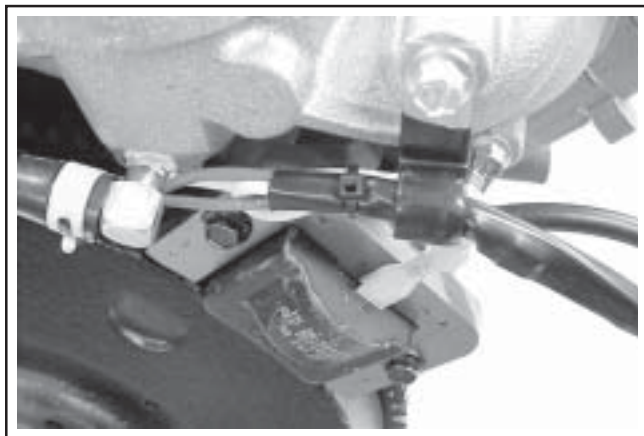

**Figure 11-73. By-pass Hose and Wiring Routed within Cutout of Intake Manifold (Some Models).**
8. Connect the kill leads to the ignition modules. Route the wiring harness and kill leads as shown in Figures 11-73 and 11-74. Push (bend) the loop portion of the clamp on the #1 side back, as far as possible, for maximum clearance from fan.